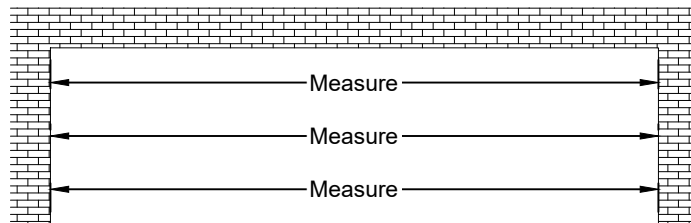

Fig. 2
- C. Measure the width of the opening (Rough Opening) at the top, middle and bottom. Select the smallest of these dimensions and subtract the left and right caulk joint width per approved shop drawing (1/4" minimum caulk joint at jambs). See **Fig. 2**.
- C. Optionally, the trim pieces can be mitered at a 45° angle at the ends. See **Fig. 2**.